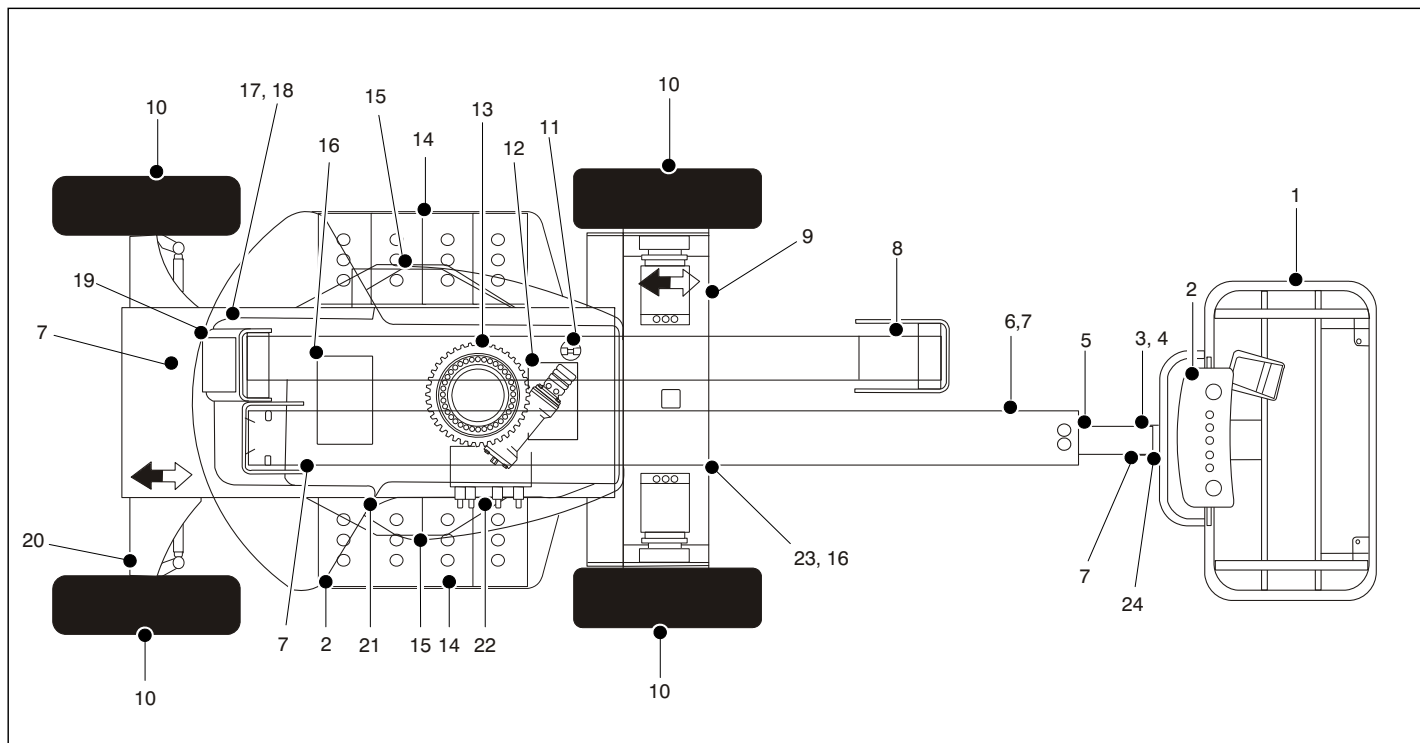

Figure 2-2. Daily Walk-Around Inspection - Sheet 1 of 3
5. **“Walk-Around” Inspection** – Refer to Figure 2-2. thru Figure 2-4.